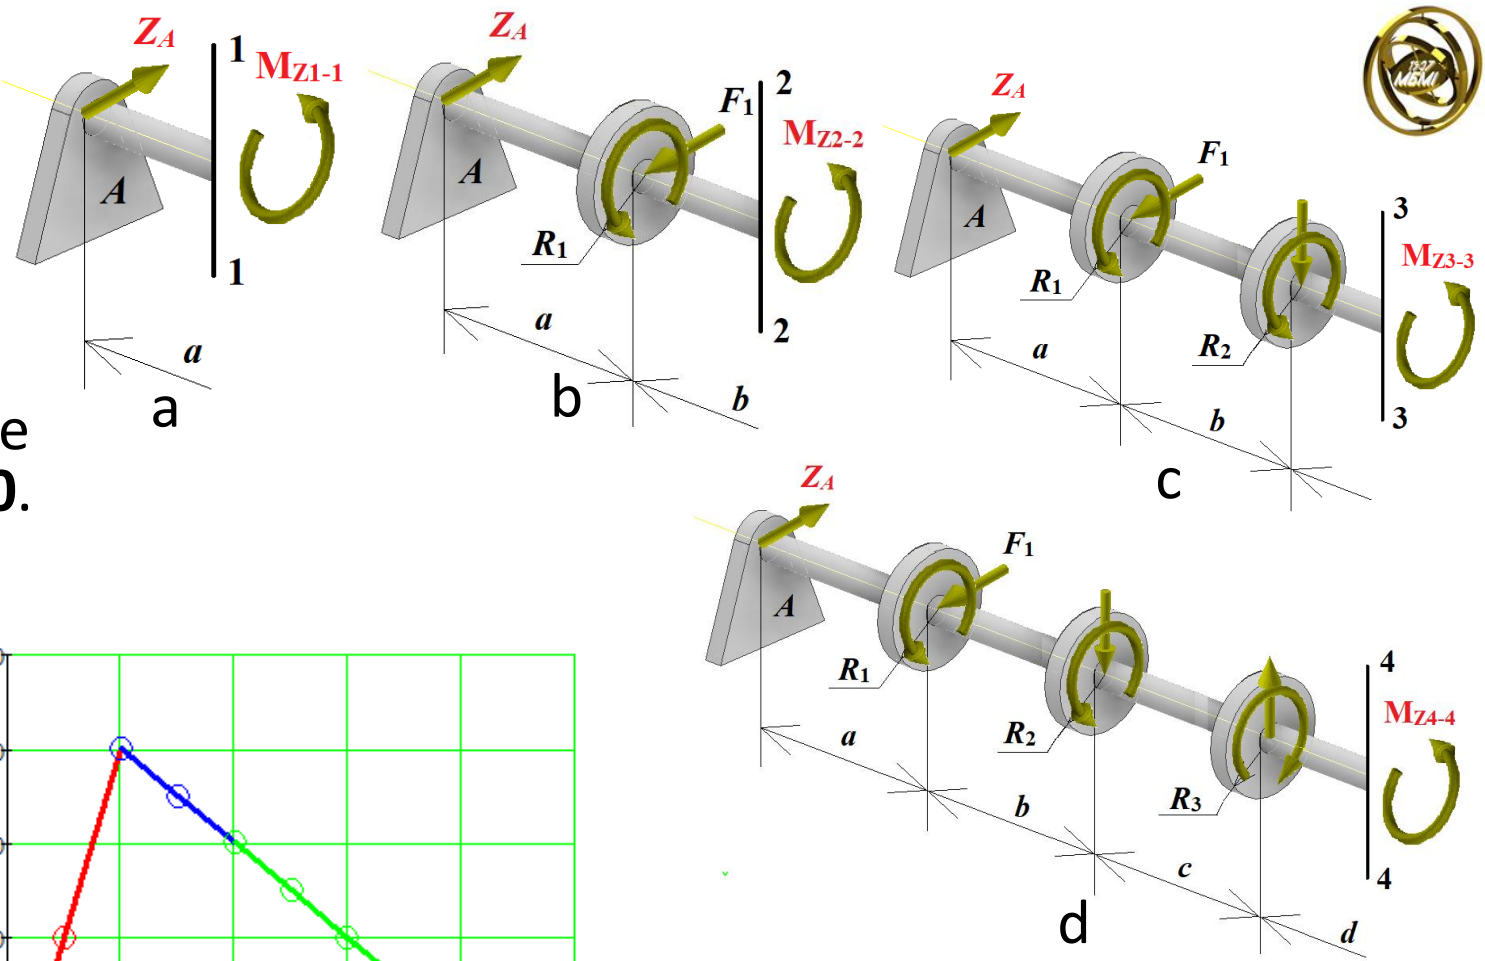

Fig. 10 – Calculation schemes for bending moments in **XZ plane**
11. Calculate bending moments in the **XZ plane** using the schemes in Fig. 10.